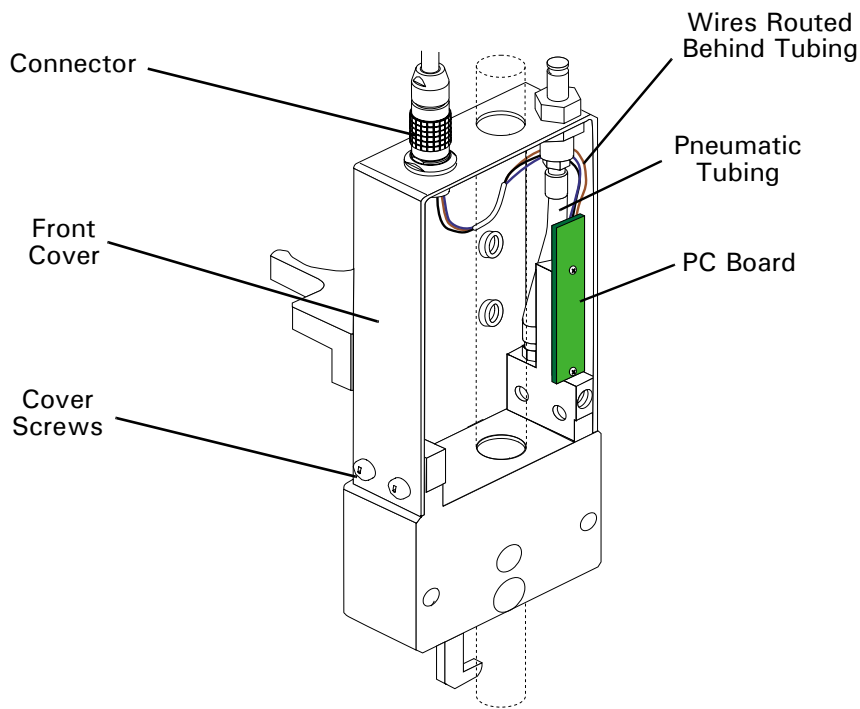

Figure 1
3. Cut and remove pneumatic tubing from back of dispense unit. See Figure 1.
1. Insert and assemble connector into new front cover. Secure connector with jam nut. See Figure 1.
4. Install a new piece of precut tubing onto nipples in the back of the dispense unit. Be sure wires from PC board go behind tubing. See Figure 1.